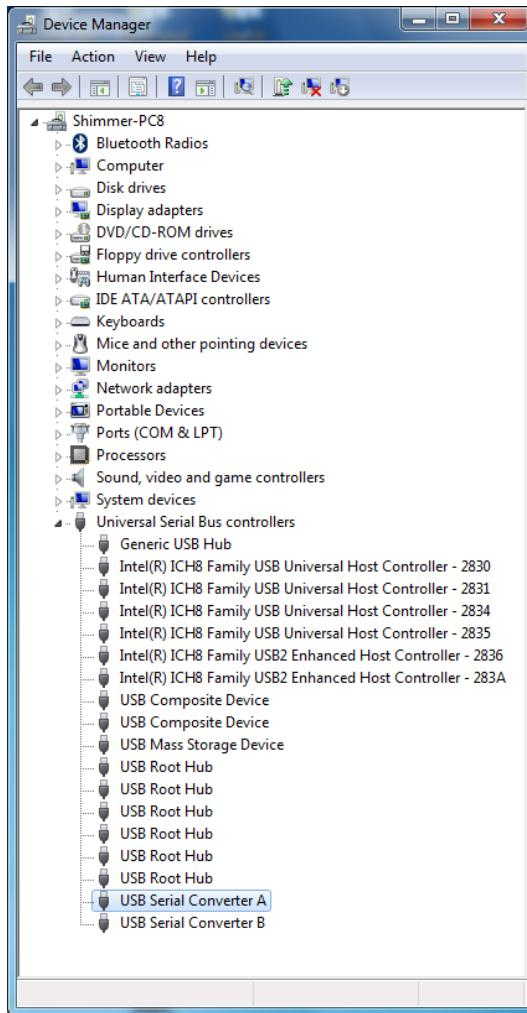

Figure 3-4 Device Manager showing USB Serial Converter A and B
- I. From the *Control Panel*, select *Device Manager* (in Windows this is found from *Control Panel* → *System* → *Hardware* → *Device Manager* or by typing *devmgmt.msc* in the Start menu) and expand the *USB* or *Universal Serial Bus controllers* entry as shown in *Figure 3-4*.